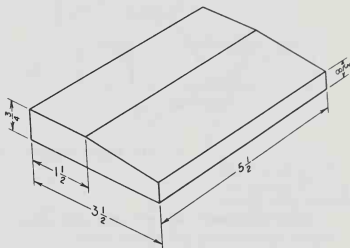

Fig. 3-10. Pen holder base.
1. Use plain notebook paper to sketch the three views of the pen holder base shown in Fig. 3-10.